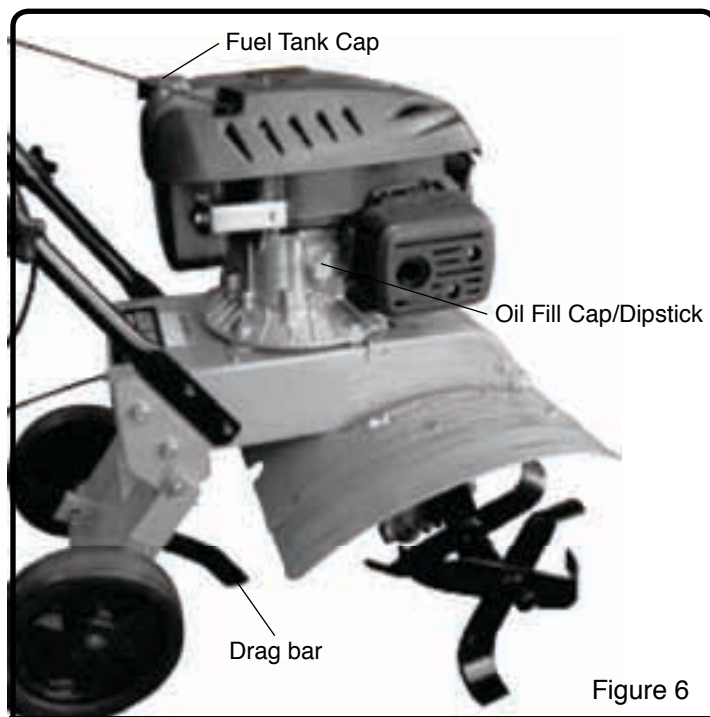

Figure 6
1. Place the tiller on a level surface and make sure the drag bar is set so the main frame of the tiller is level. (See Figure 6)